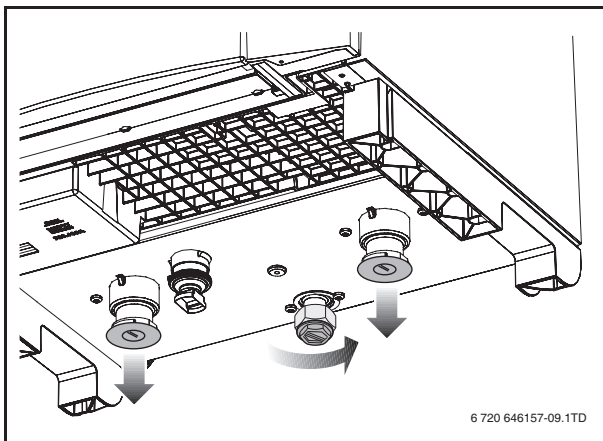

Fig. 9 Removing the covers - boiler bottom
- Remove the protective covers from the bottom of the boiler (fig. 9, page 15).